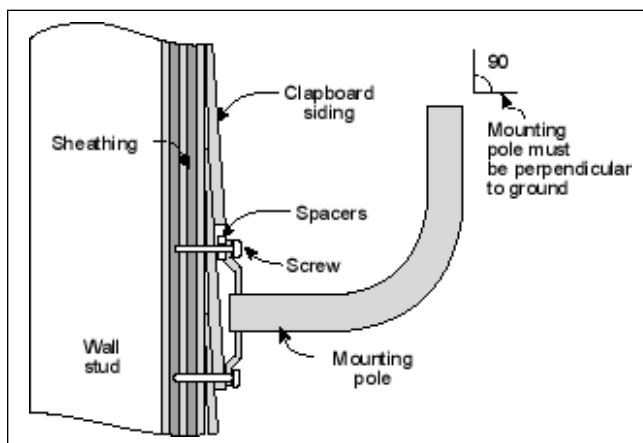

Figure 5-6 Mounting Pole on Clapboard Siding
2. Using a level, be sure that the mounting pole is perpendicular to the ground. You may need to use spacers, as shown in Figure 5-6.